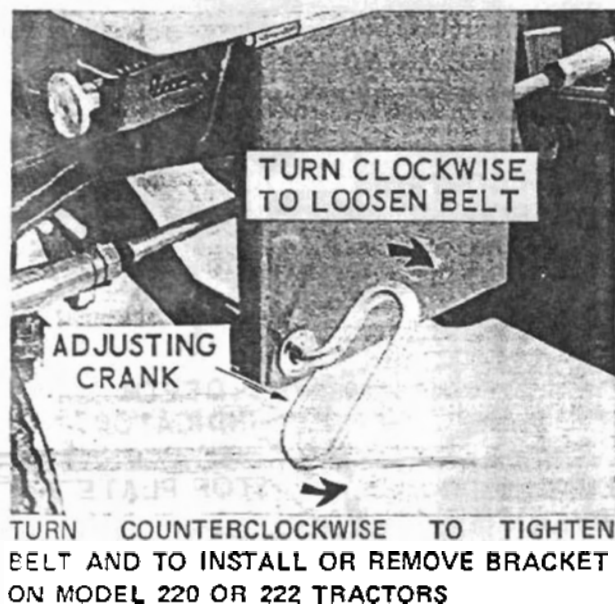

Figure 7.
4. Drive Belt Tension: See Figure 7